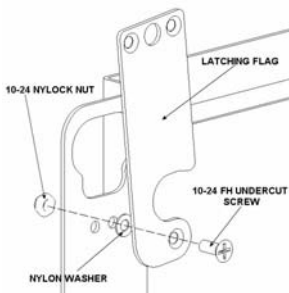

Figure 2
1. Attach mounting buttons to plasma using six M8 x 20 cap screws provided for each mounting button (Figures 2 & 3).